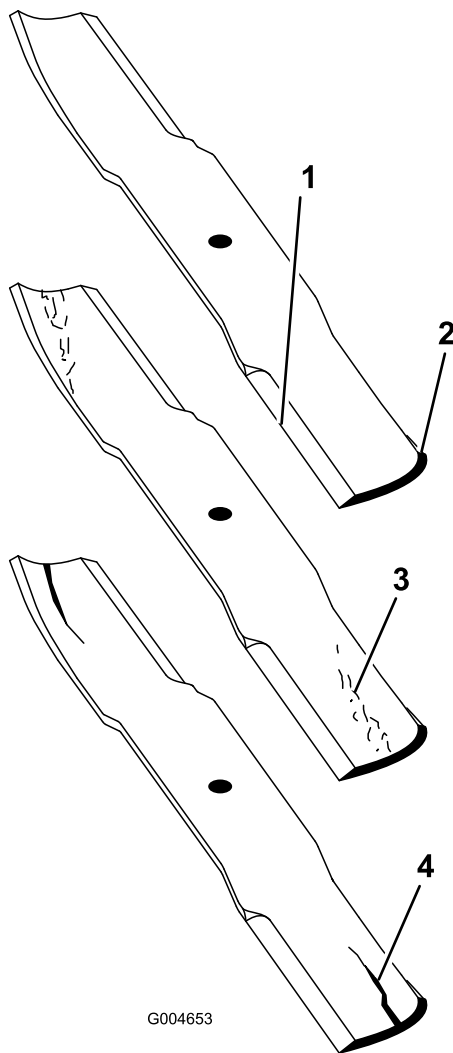

Figure 87
2. Examine the cutting ends of the blade carefully, especially where the flat and curved parts of the blade meet (Figure 87). Since sand and abrasive material can wear away the metal that connects the flat and curved parts of the blade, check the blade before using the mower. If wear is noticed (Figure 87), replace the blade.
If the blade is allowed to wear, a slot will form between the sail and flat part of the blade (Figure 87). Eventually a piece of the blade may break off and be thrown from under the housing, possibly resulting in serious injury to you or bystanders.